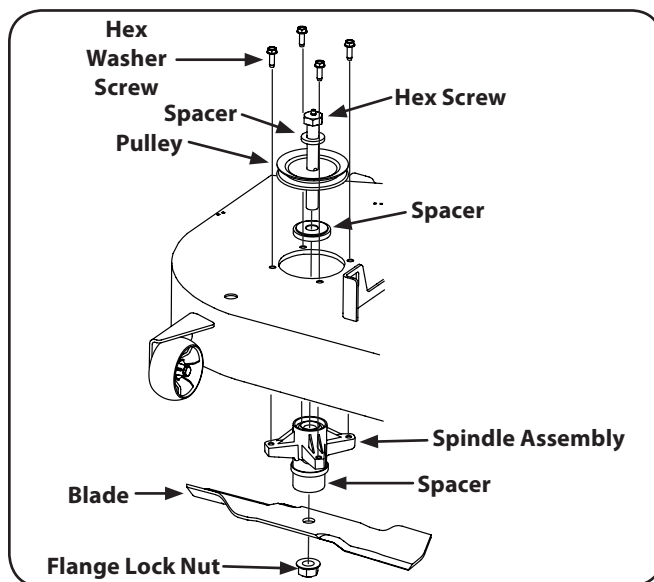

Figure 7-11
2. Use a $\frac{3}{4}$ " wrench to hold the hex washer screw on the top of the spindle assembly when loosening the flange lock nut securing the blade. See Fig. 7-11.